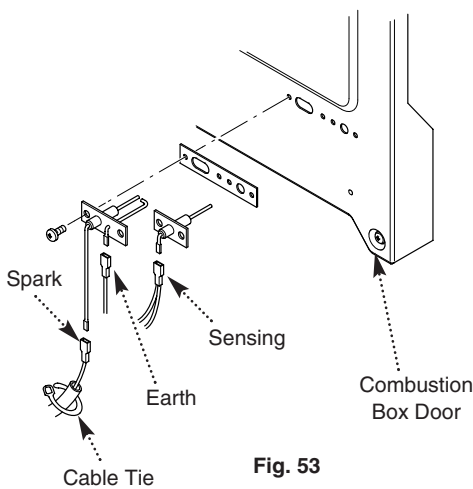

Fig. 53
13.7 Spark and Sensing Electrodes (Fig. 53)